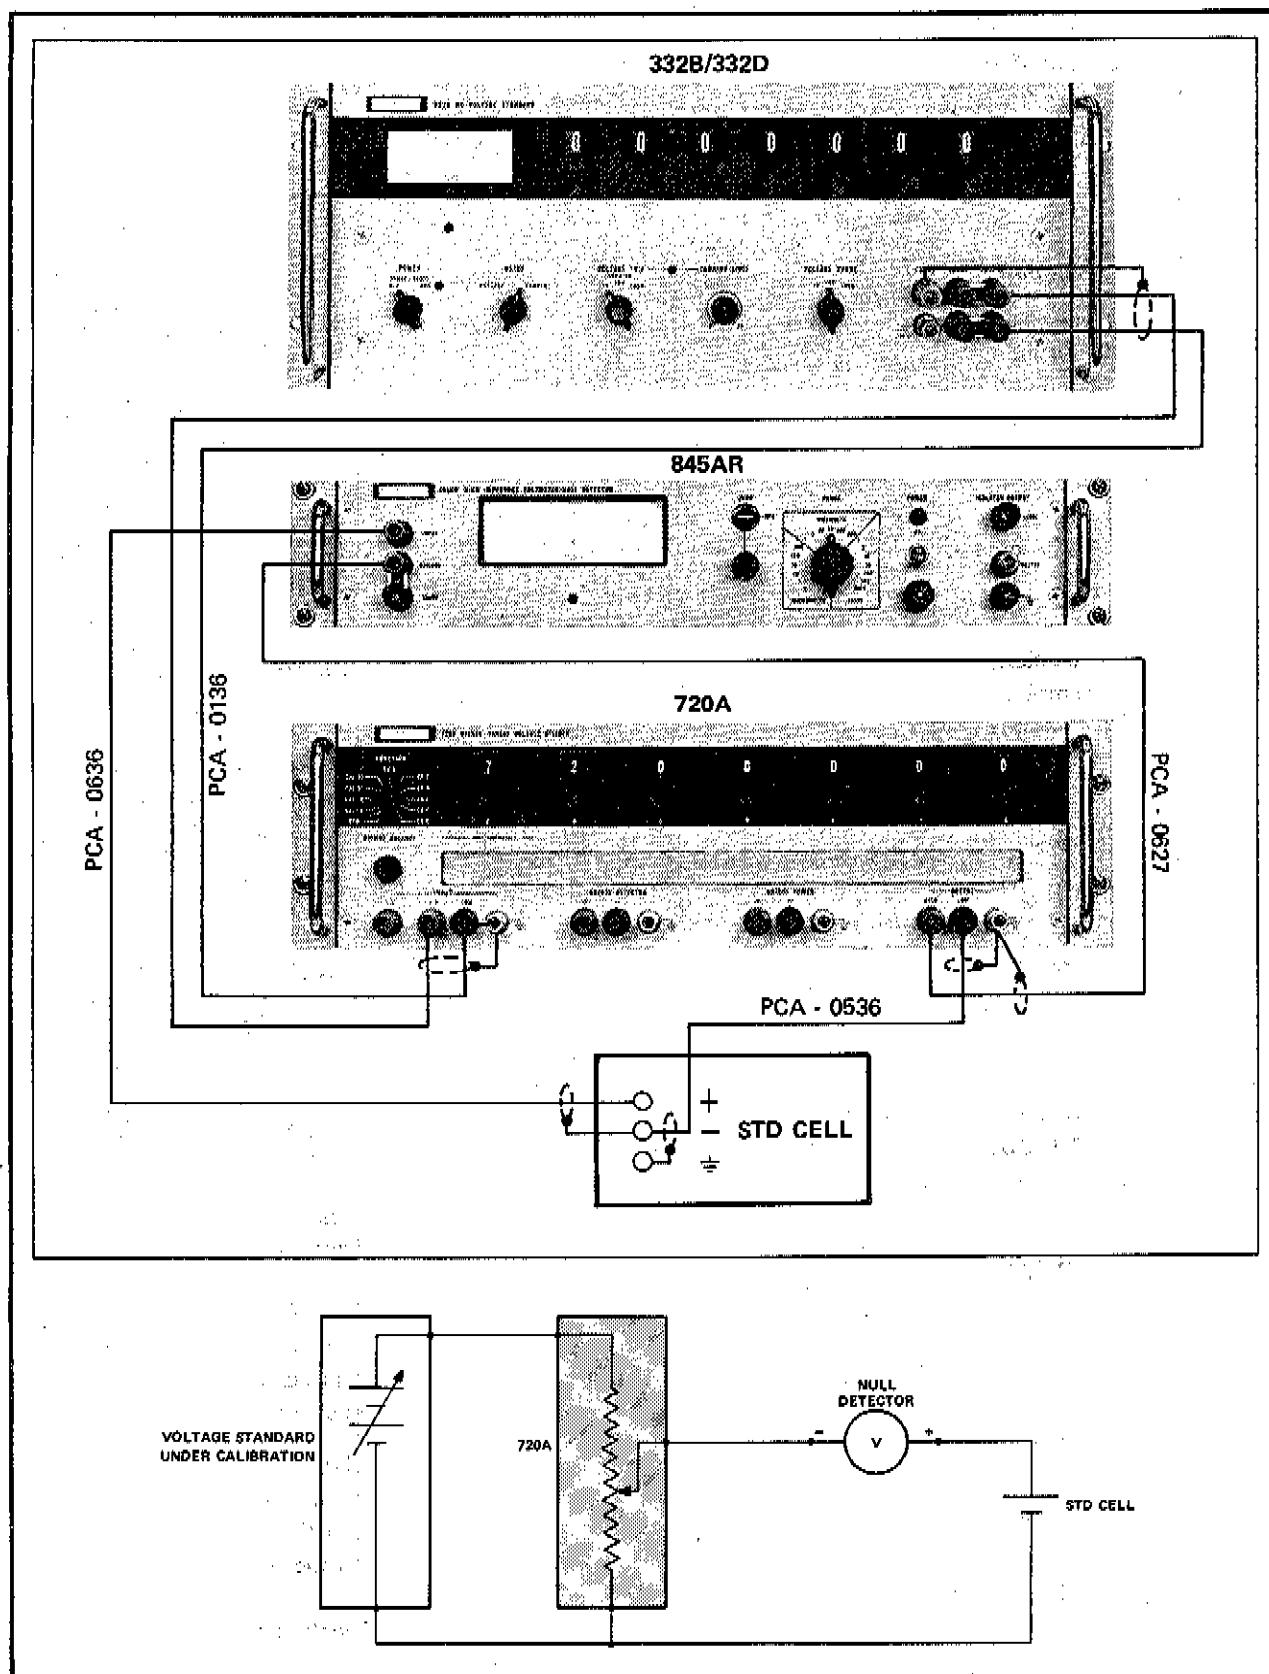

Figure 4-10. CONNECTIONS FOR SAMPLE STRING LINEARIZATION USING STANDARD CELL
- b. Make the equipment connections illustrated in Figure 4-10.